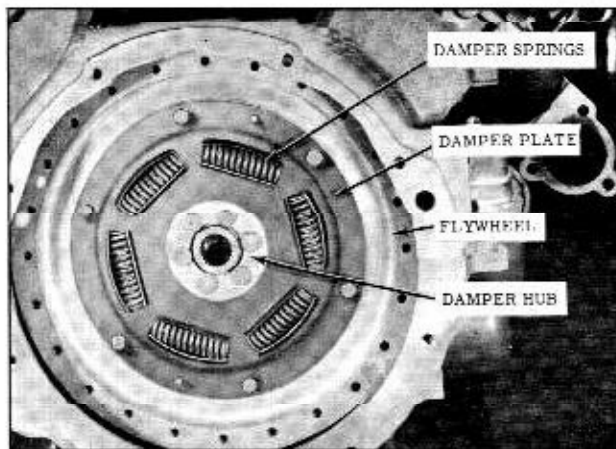

Fig. 8-52 Damper Assembly
- Remove the six damper plate to flywheel attaching cap screws and remove damper. (Fig. 8-52)